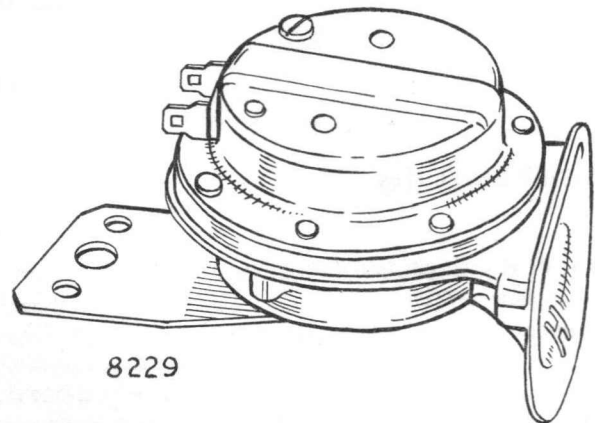

Fig. 31. Clear Hooter model F725 horn
**CLEAR HOOTER HORN, Model F725 (Fig. 31)**